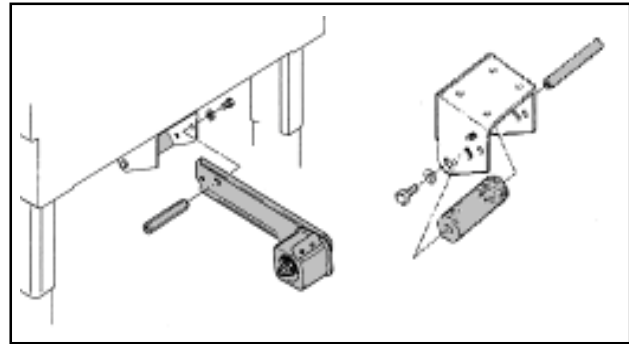

Figure 1
**Note:** This kit requires the use of parts from the existing outboard tape roll mount on your 3M-Matic™ Case Sealer. The actual outboard assembly from your case sealer might differ from Figures 1.
- 2) Remove and retain the roller(s) and shaft(s) (See figure 1).